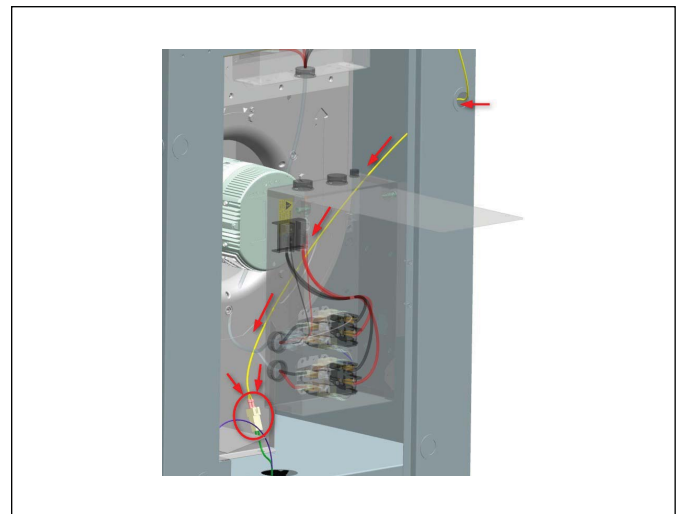
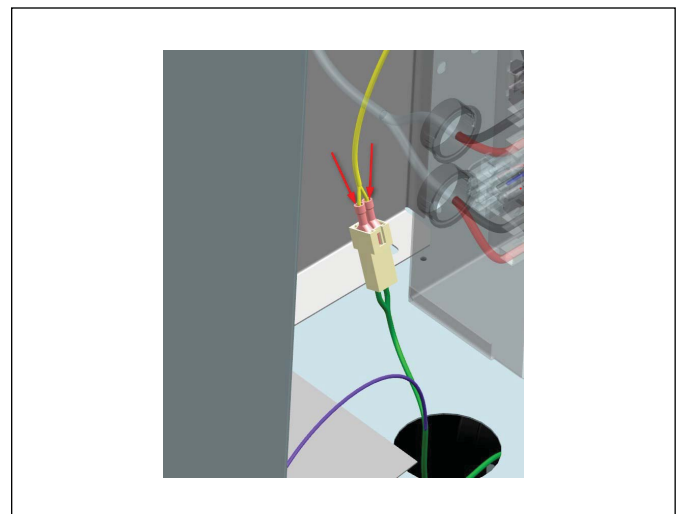

Figure 44
Figure 45
4. Open knockout and route wire through hole to the remaining female interconnect and connect both pink female terminals to male blades of the interconnect as shown in Figure 44. (Figure 45 is a closer view of completed connection shown in Figure 44.)